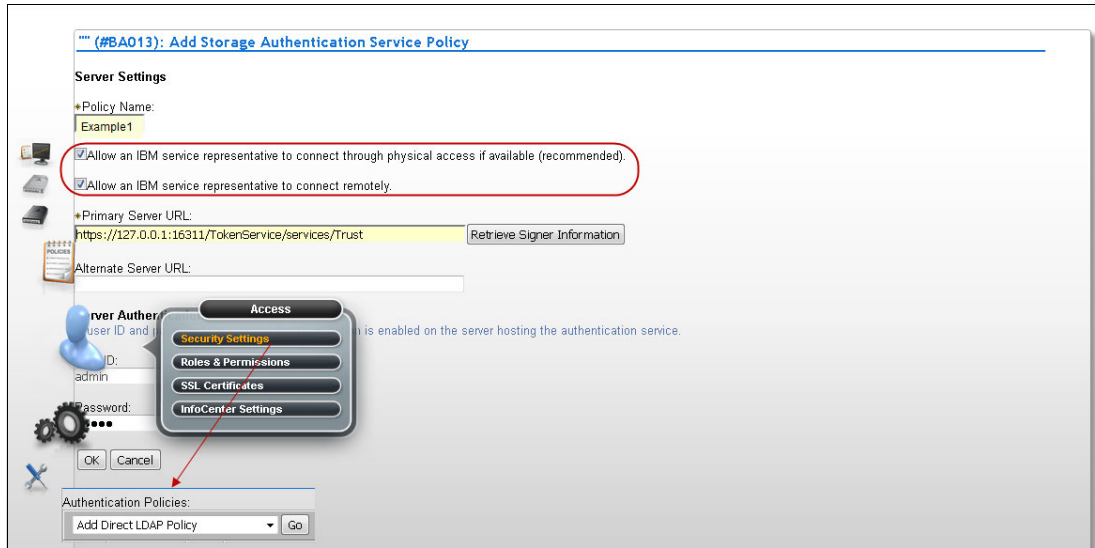

Figure 9-104 Add Storage Authentication Service Policy
3. Click **Go** to open the Add Storage Authentication Service Policy window that is shown in Figure 9-104 on page 454. The following fields are available for completion:
Figure 9-104 shows an example of adding a Storage Authentication Service Policy. We suggest marking the highlighted boxes to allow IBM service personnel access to the TS7700.